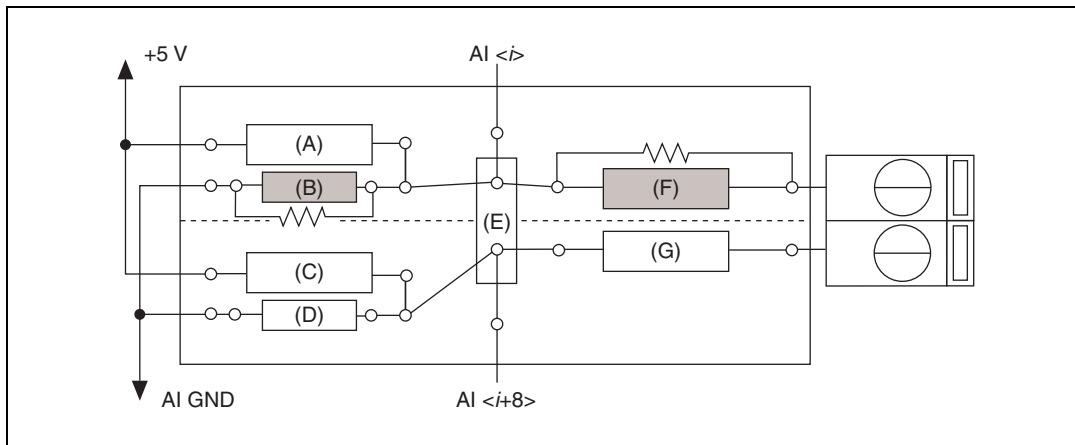

Figure 4-39. SCB-68 Circuit Diagram for Single-Ended Analog Input Attenuation on AI A
- **Single-ended analog input attenuators**—To build a two-resistor circuit for attenuating voltages at the single-ended analog inputs of the SCB-68, refer to Figure 4-39. Refer to Table 4-1 for component positions for all analog input channels.